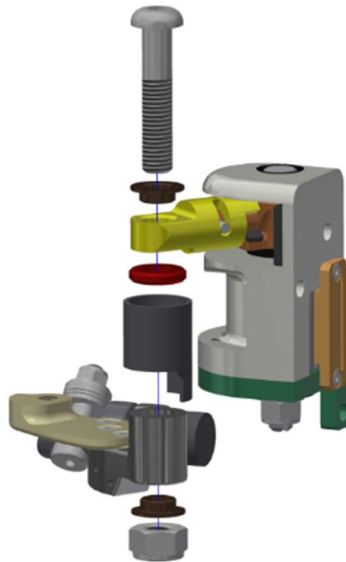

Figure 7-4. Separate the Lower Scapula (474-3505-1,2) from the Spine-Shoulder Coupler Assembly (474-3524-1,2-A)
- 7.2.1 With the Shoulder Assemblies (474-3500-1,2-A) removed from the Spine Assembly (474-3200-A) (0) and the clavicle removed from the Shoulder Assembly (Section 5.2), separate the Lower Scapula (474-3505-1,2) from the Spine-Shoulder Coupler Assembly (474-3524-1,2-A) by removing one M10 X 1.5 X 50 LG. BHCS SS (Figure 7-4).